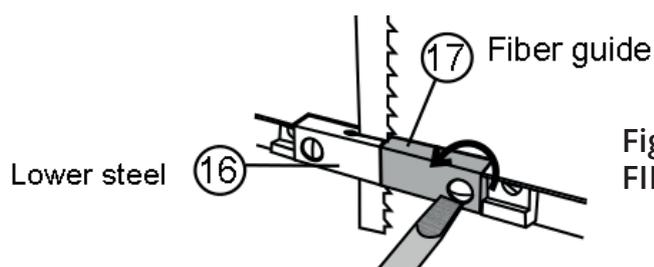

Fig. 8 REMOVING THE FIBER GUIDE
**To replace the fiber guide follow these steps (fig 8):**